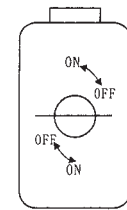

Fig.6
3. Installation of smoke channel type water heater batteries (Fig.6)